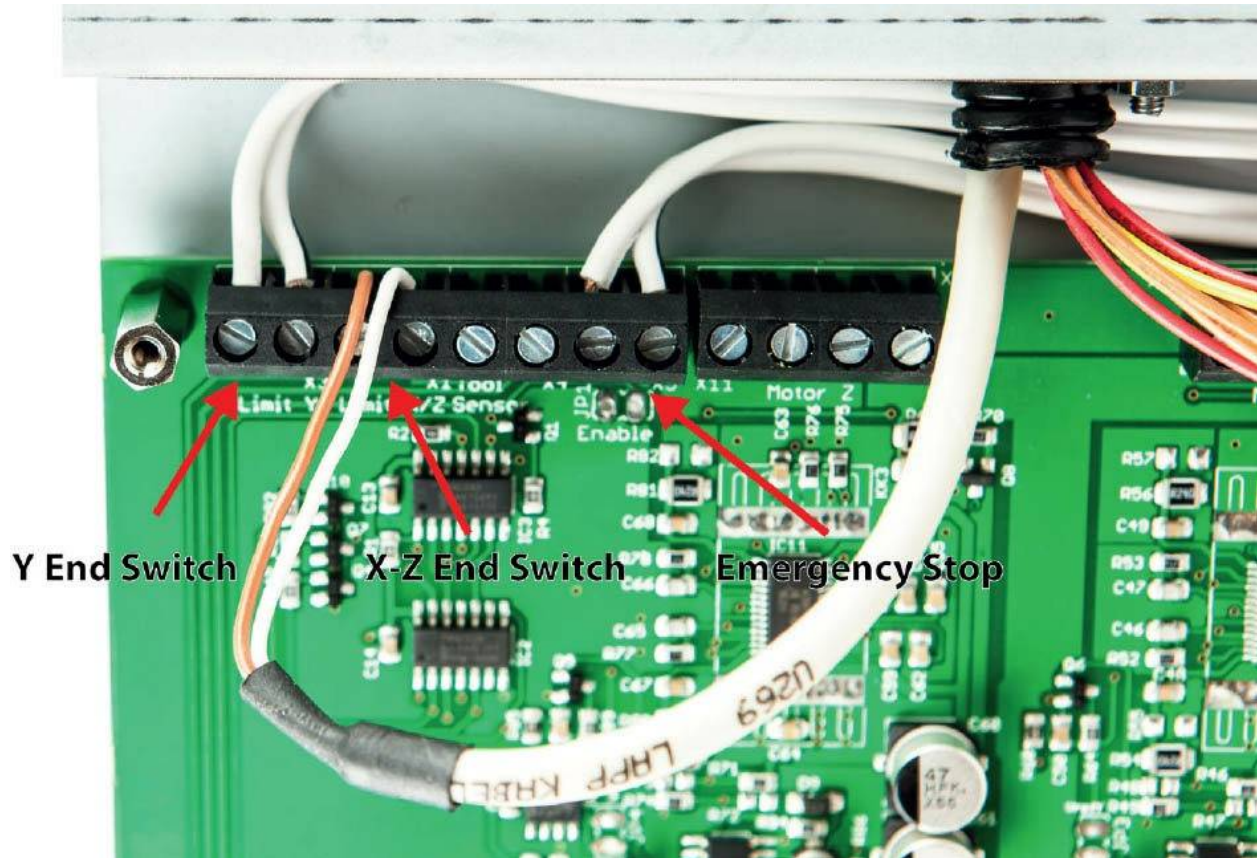

Fig. 2.84 *Connecting the emergency stop and end switches*
7. Connect both end switch cables and the emergency stop cable as shown in figure 2.84. The Y end switch cable is easy to identify, and the cable for the other two end switches is the gray-coated one with white and brown cores. It doesn't matter which way the two